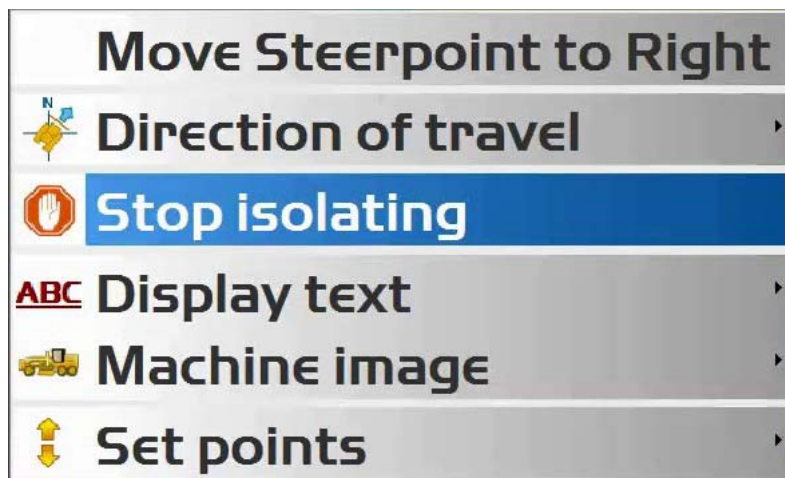

Figure 120: Stop Isolating a Surface
2. From the context menu, select **Stop isolating** (Figure 120).